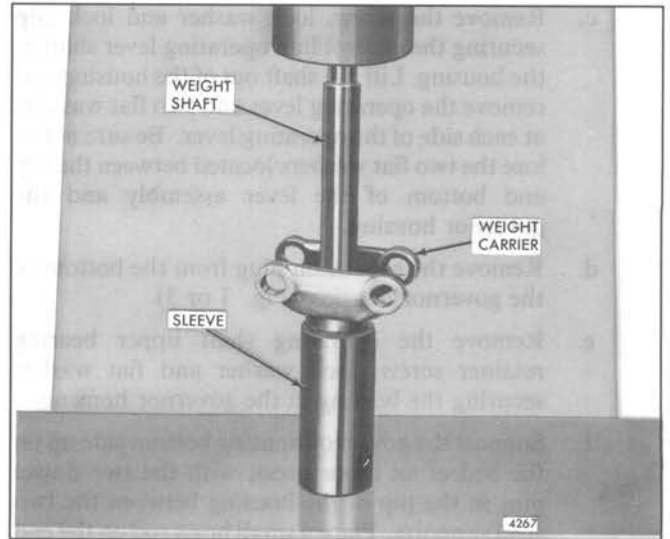

Fig. 13 - Removing Governor Weight Shaft from Weight Carrier
- c. carrier and sleeve on the bed of an arbor press and press the shaft out of the weight carrier (Fig. 13).